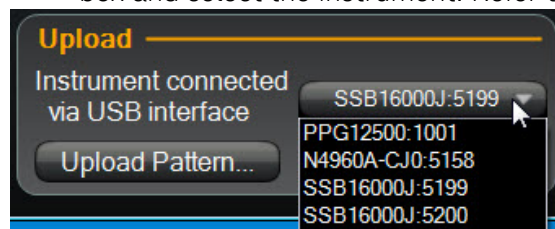

Figure 93. Connected Instrument drop down list box
1. Under **Upload**, click on the **Connected Instrument** drop down list box and select the instrument. Refer to Figure 93.